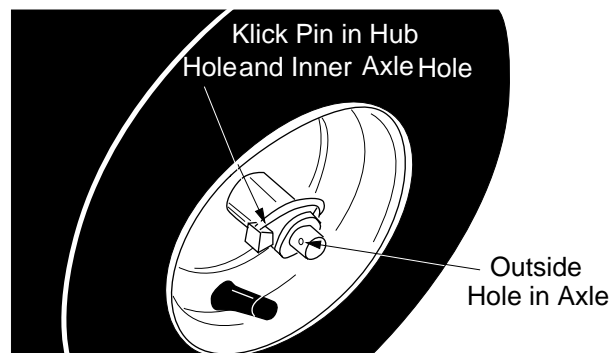

Figure 22
The wheels may be adjusted for two different methods of operation. The adjustment is made by placing the click pins in one of two different holes on the right side of the unit. See Figure 22.
2. Both Wheels Driving—Rotate wheel assembly to align hole in hub with inner hole on axle shaft. Insert click pin in hole. Outer axle shaft hole should be visible. See Figure 22.